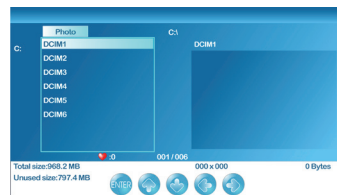

Figure 1
2. Use ▲ or ▼ to select the folder you want, and press ENTER (See Figure 1).